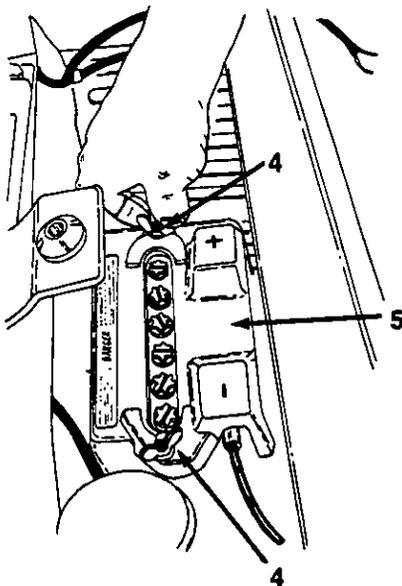

FIGURE 3.
4. To remove the battery, remove two wing nuts. See figure 3.